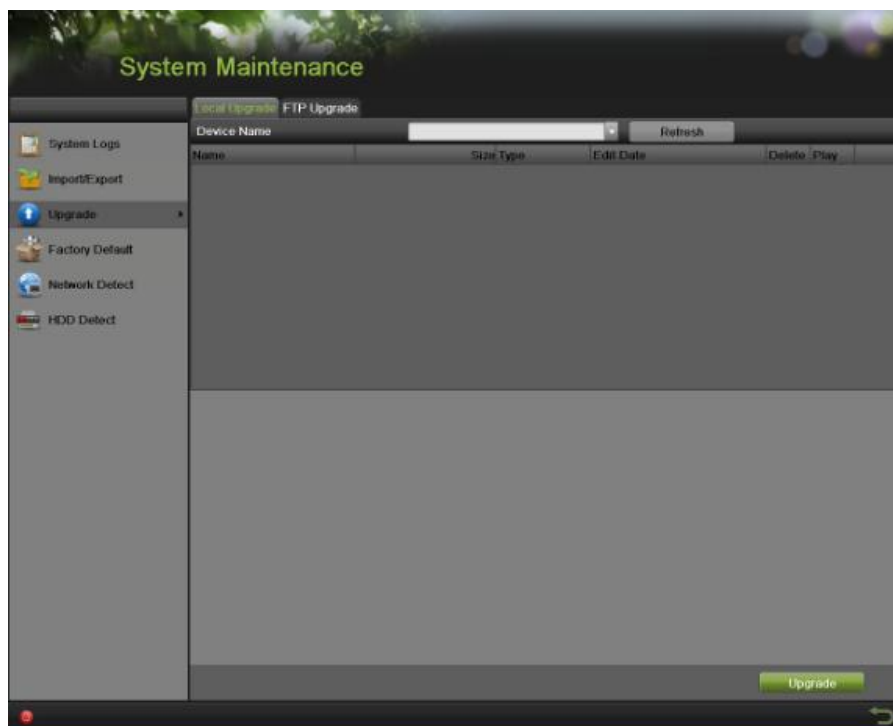

Figure 140 Local Upgrade Menu
2. Select the Local Upgrade tab, as shown in Figure 140.